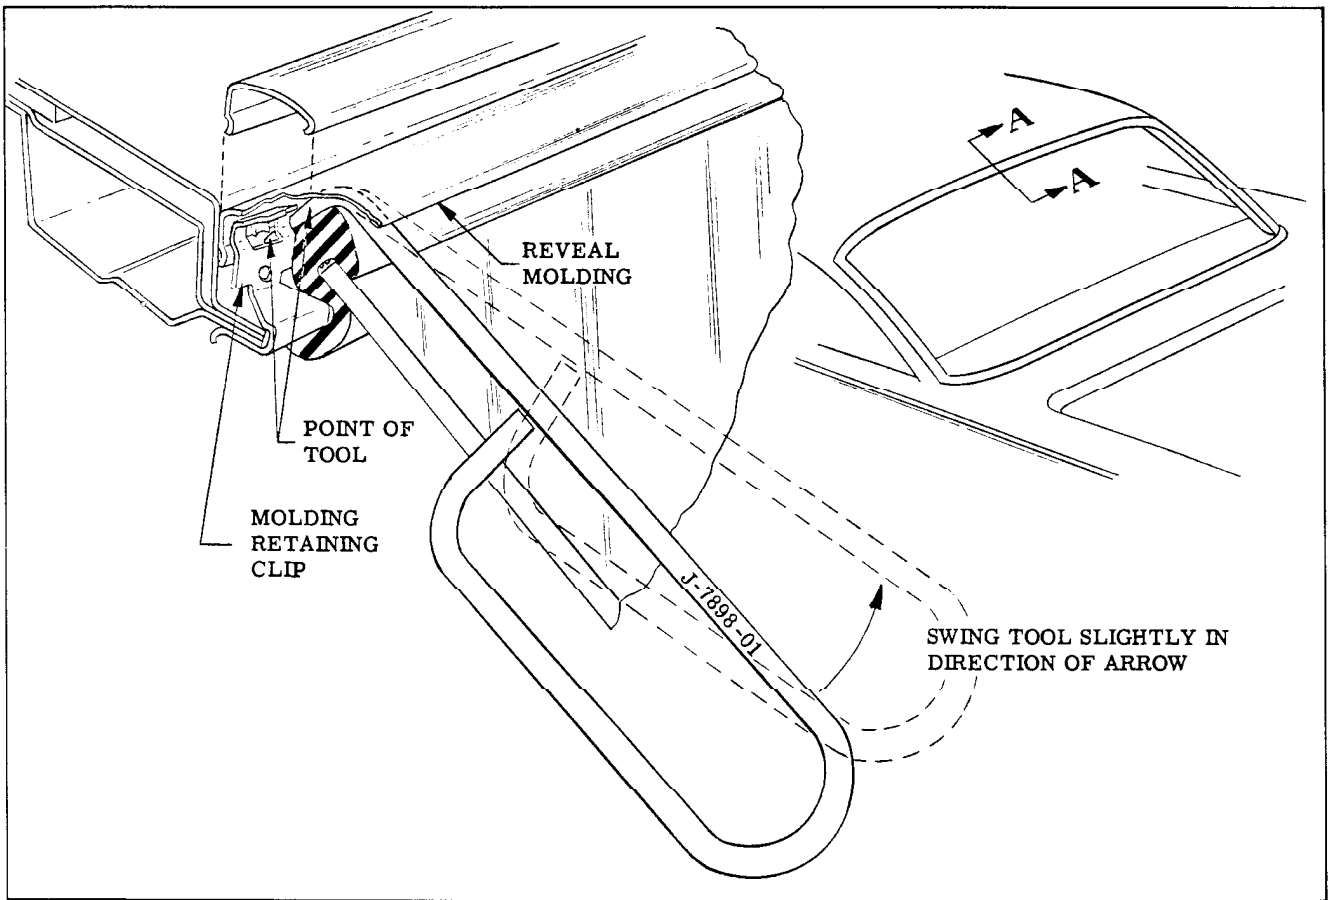

Fig. 17-76 Removing Back Window Upper Reveal Molding
- Engage point of tool between retaining clip and molding, then swing tool slightly to disengage prongs of clip from molding and lift molding free of clip. (Fig. 17-76)